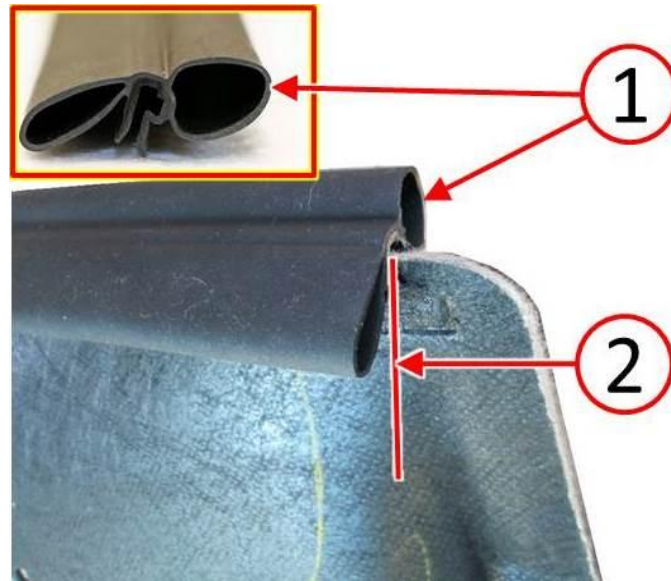

Fig. 5 Seal Installed On The Rear Edge Of The Rear Shelf Panel
18. Install the seal to the rear edge of the rear shelf panel with the round bulb of the seal (1) facing toward the top visible side of the shelf when installed. Position the seal in the center of the shelf panel using the center of the first indent (2) on the underside of the shelf panel where the foam was previously installed as a guide (Fig. 5).